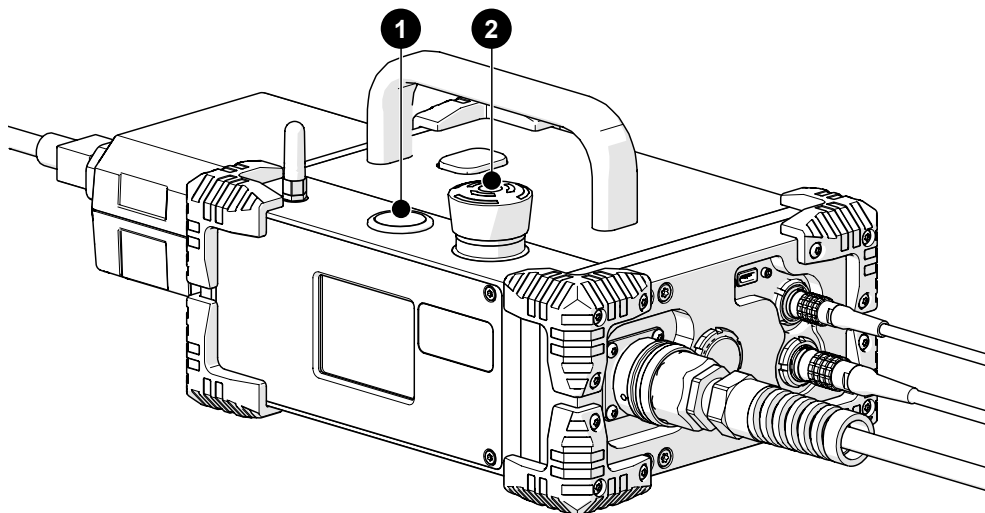

Fig. 79 - System controller with pass-through
3. Locate the ② red off push-button on the system controller with pass-through. Rotate this button clockwise to unlatch (Fig. 79).
4. The ① power button (Fig. 79) on the system controller with pass-through activates the system.